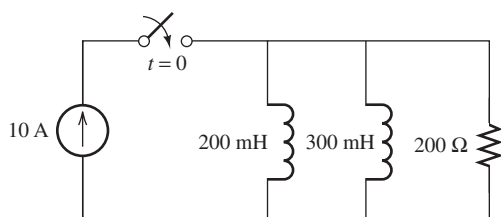

FIGURE P5.27 Circuit for Problem 5.27.
- 5.27 (A) Find the current flow through the resistor, $i_R(t)$, for the circuit shown in Figure P5.27. Assume that the switch is closed at $t = 0$.